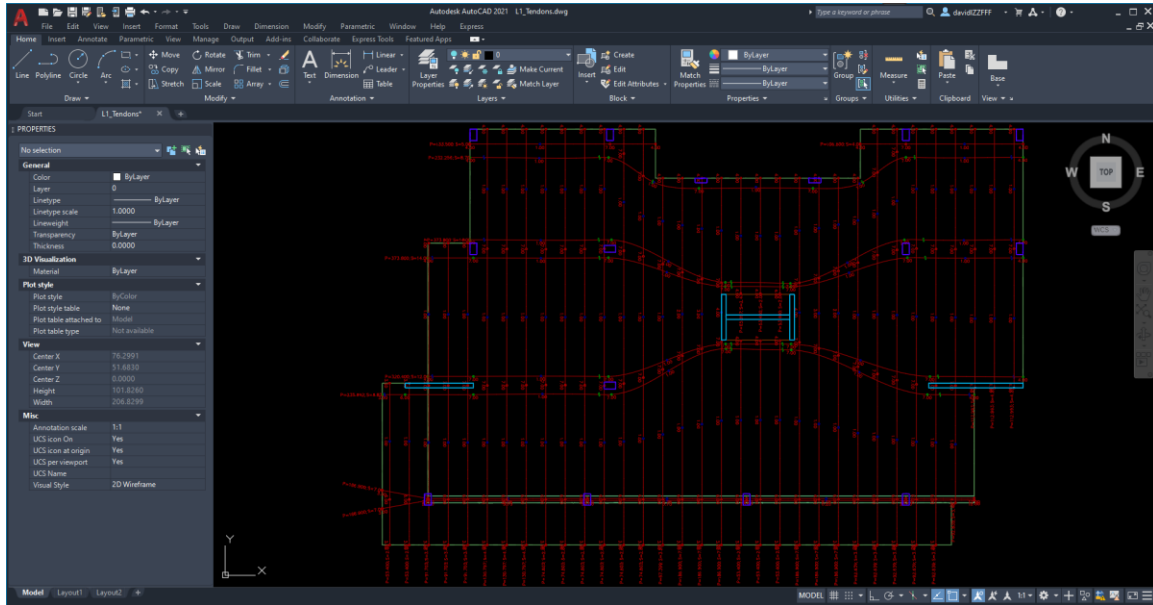

FIGURE 9-137
- Opening the drawing the user will have a CAD file that looks like the CAD file shown in **FIGURE 9-137**.